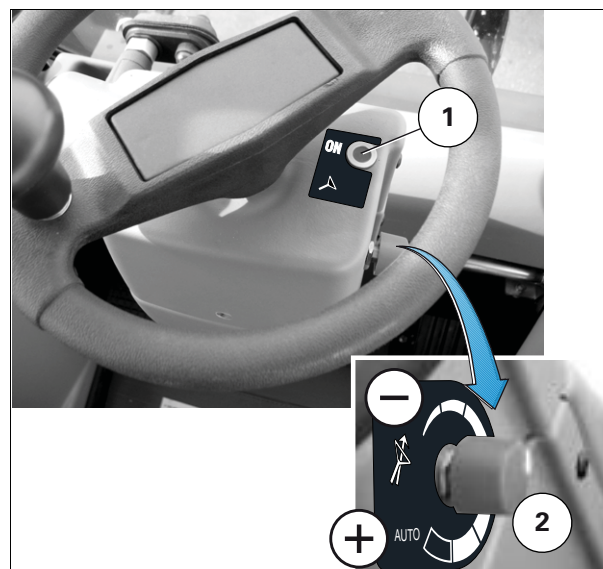

Fig. 7.
1. Engage the Valtra Shuttle lever in the desired direction of travel and the displays (1) and (2) appear on the Dash Control Center.
2. The indicator light (1) fig. 7 is lit.